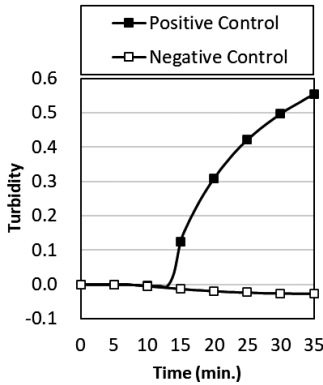

Fig1 : Amplification plots for controls
- (1) Configure Real-Time Turbidimeter LA-500 for detection with this product.
- (2) Check if the displayed temperature reaches 62.5 $^{\circ}\text{C}$ (allow the turbidimeter to warm up for 20 minutes before use).
- (3) Load the reaction tubes and start the measurement.
- (4) Watch the display of the turbidimeter to check the positive and negative controls for any increase in turbidity. If the turbidity increases in PC nCV19 but doesn't in NC, amplification reaction is proceeding properly (Fig 1). If any other situation occurs, however, amplification reaction may be proceeding in a wrong way. In such a case, retest affected samples from reagent preparation.
- (5) Confirm the completion of polymerase inactivation (automatically completed by the turbidimeter). Take all reaction tubes out of Real-Time Turbidimetry and discard them without opening.
After confirming that the turbidity increases with PC nCV19 but doesn't in NC, evaluate samples in accordance with the following criteria (Fig 1 and 2).